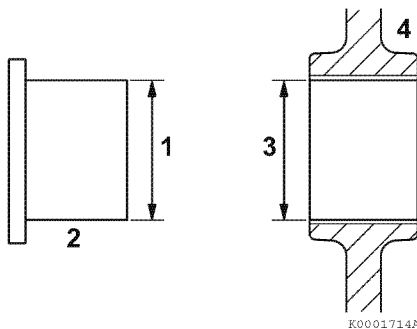

Figure 6-82
1. Measure the outside diameter (**Figure 6-82, (1)**) of the idler gear shaft (**Figure 6-82, (2)**). Record the measurements. *See Idler Gear Shaft and Bushing on page 6-7 for specifications.*
2. Measure the inside diameter (**Figure 6-82, (3)**) of the idler gear bushing (**Figure 6-82, (4)**). Record the measurements. *See Idler Gear Shaft and Bushing on page 6-7 for specifications.*